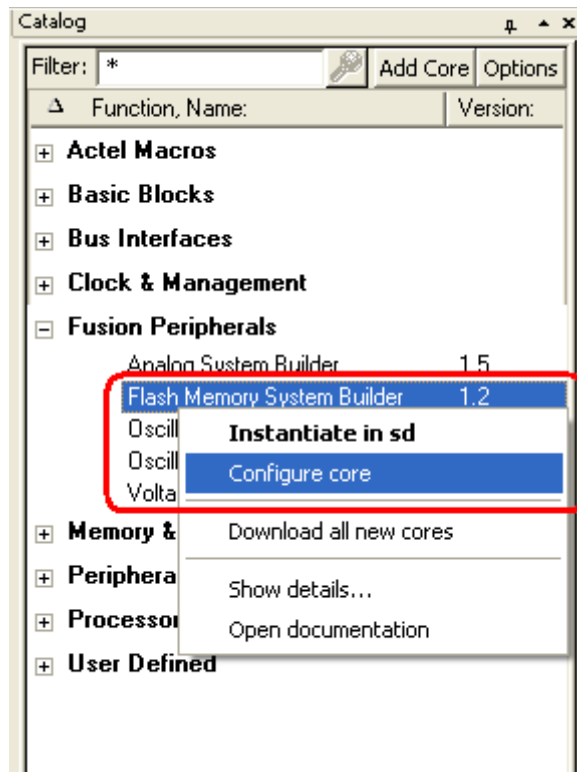

Figure 7-11 • Configure Core
- In the Libero IDE Catalog, right-click the **Fusion Peripherals** > **Flash System Memory Builder** core and choose **Configure core** (Figure 7-11). It is not necessary to create an FMSB instance (by double-clicking or choosing Instantiate in <SmartDesign-name>), although creating one will not cause a problem.